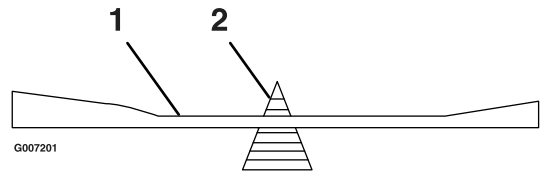

Figure 48
2. Check the balance of the blade by putting it on a blade balancer (Figure 48). If the blade stays in a horizontal position, the blade is balanced and can be used. If the blade is not balanced, file some metal off the end of the sail area only (Figure 48). Repeat this procedure until the blade is balanced.